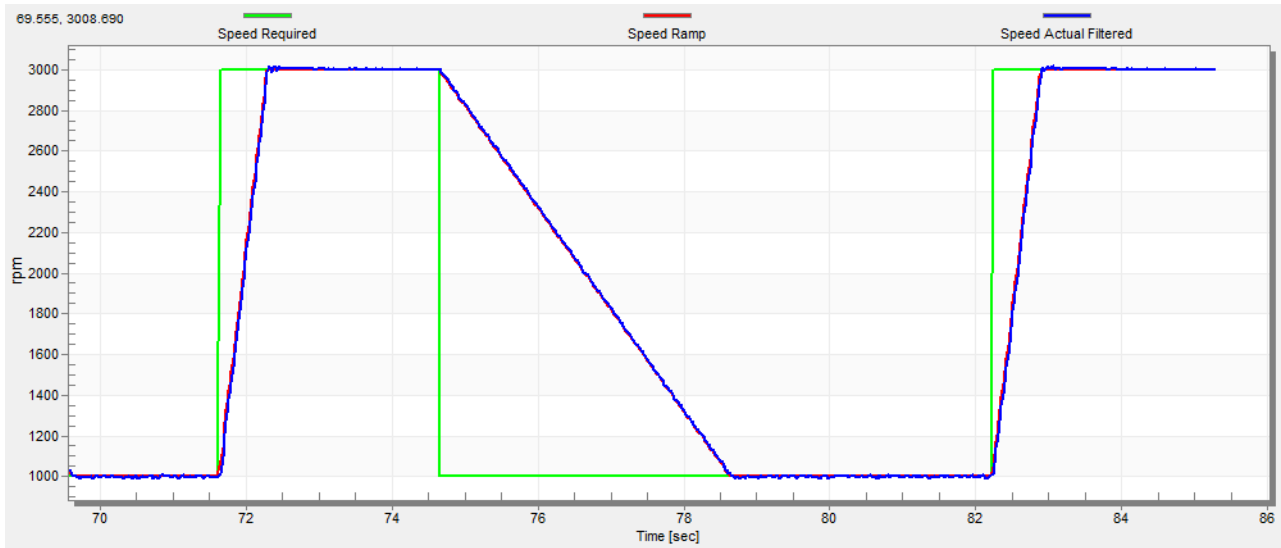

Figure 32. Speed profile
2. The increments are common for the scalar and speed control. The increment fields are in the “Speed & Pos” tab and accessible in both tuning modes. Clicking the “Update Target” button applies the changes to the MCU. An example speed profile is shown in Figure 32. The ramp increment down is set to 500 rpm/sec and the increment up is set to 3000 rpm/sec.